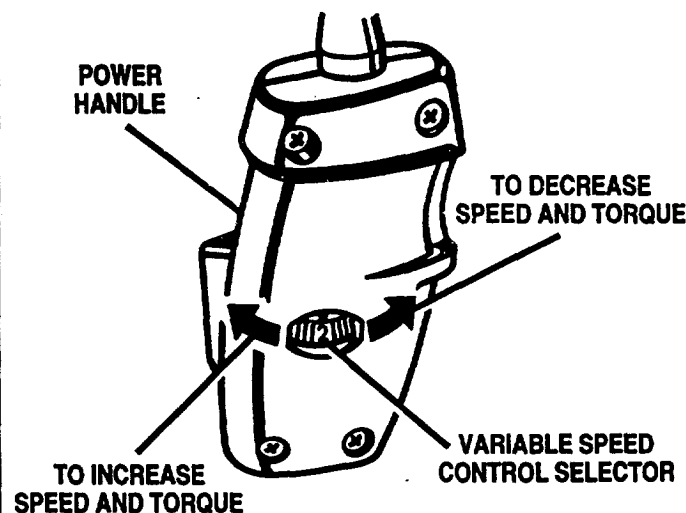

Fig. 8
See Figure 8.
- Choose the desired speed from the speed selection chart. See Figure 8.